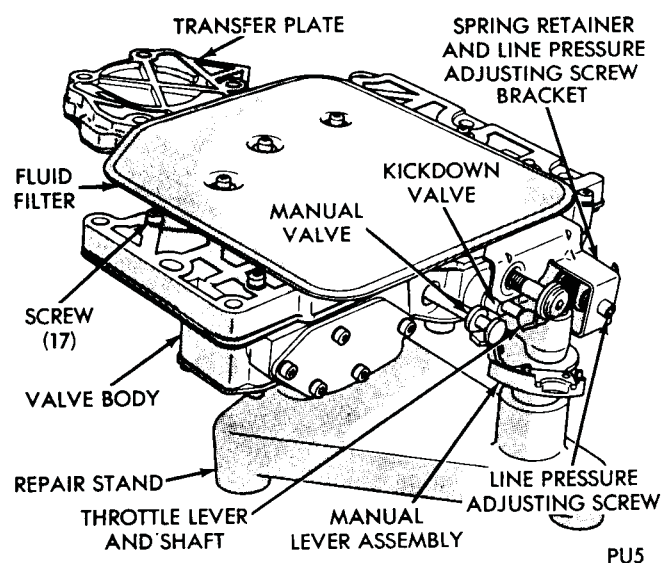

Fig. 1—Valve Body Assembly
(1) Place valve body assembly on repair stand Tool C-3749 (Fig. 1). Remove three screws from the fluid filter and lift off filter.